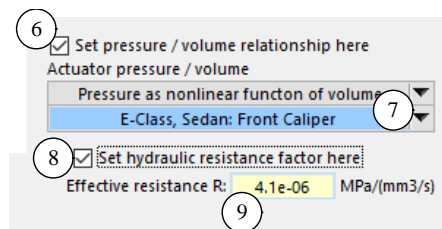

Figure 10. Controls involving pressure/volume relationship.
- ⑥ Checkbox to set the pressure / volume relationship for the brake. When this box is checked, more controls are shown that can be used to specify actuator dynamics in terms of volume flow (Figure 10).